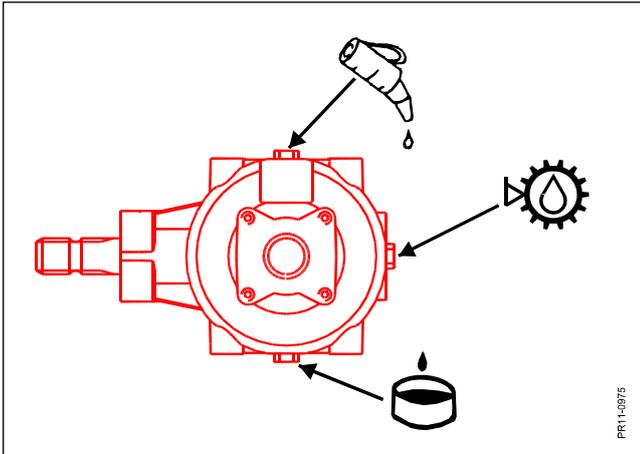

Fig. 4-1
- Fig. 4-1 Oil content:**  **1000 rpm = 1.2 l**